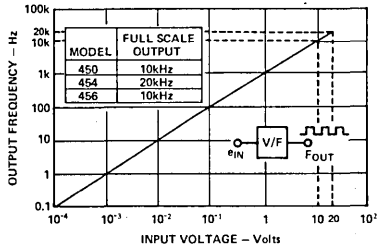

Figure 3. Voltage-to-Frequency Transfer Curve
**Dynamic Range:** Models 450 and 456 accept unipolar, single ended input signals from 0V to +10V with 50% minimum overrange. The corresponding output frequency is dc to 10kHz as shown in Figure 3. Model 454 is designed for either bipolar or unipolar single ended input signals. It accepts 0V to +20V or 0mA to 0.67mA input signals directly with 10% min overrange; the corresponding output frequency is dc to 20kHz.